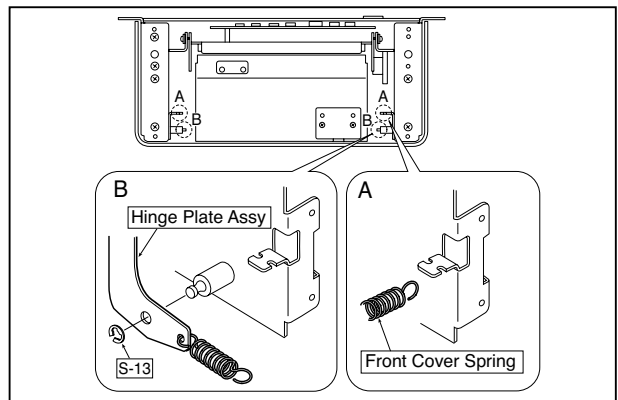

Fig.2
**2) Remove the Front Cover UNIT. (See Figs.2 and 3.)**
- 1.Remove the Front Cover Spring shown in Figure 2 and portion A.
- 2.Remove the "S-13" E-ring shown in Figure 2 and portion B and then remove the Hinge Plate Assy.